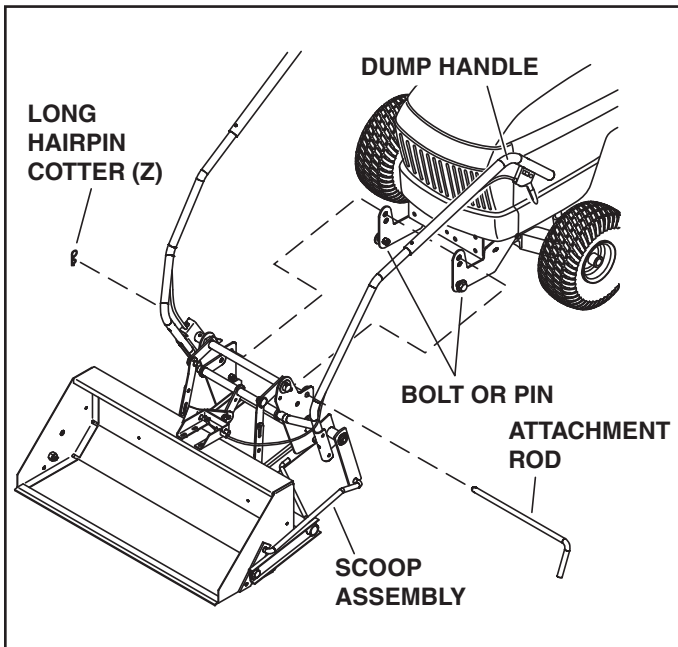

FIGURE 23
STEP 24: MOUNT SCOOP TO TRACTOR (SEE FIGURE 23)
- Align the scoop with the side plates on the front of the tractor. Lift the rear of the scoop and slide the notches in the scoop frame onto the bolts or pins in the tractor side plates. Stand on the left side of the tractor and push down on the scoop dump handle until the holes in the scoop frame and the holes in the side plates are aligned. Install the attachment rod through the holes from the left side and secure it with a long hairpin cotter (Z).